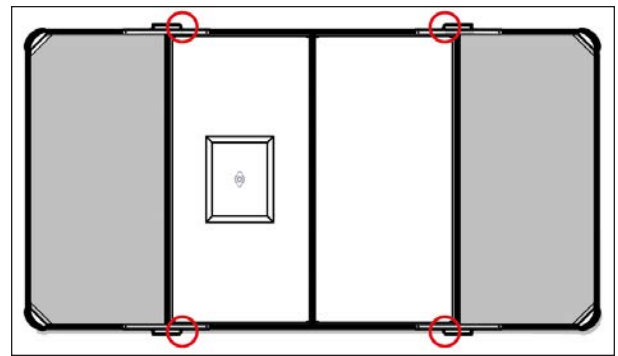

**FIGURE 56: HOLE DRILLING THROUGH THE C-CHANNEL**
- Use the provided 5/32" drill bit to drill the holes on the top and bottom of the support bracket, see Figure 56. Use the pre-drilled holes in the support bracket as guidance.